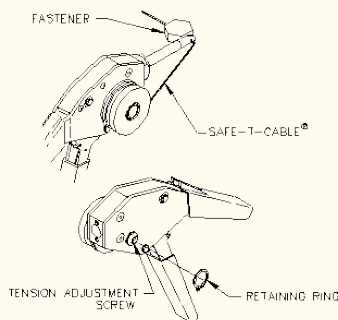

FIGURE 17: Adjustable Tension Safe-T-Cable® Tool
3.2 Adjustable tension tool (Figure 17): Thread the Safe-T-Cable® through the fastener, ferrule, and tool nose in the same way as with other models. Wrap the cable one full revolution (clockwise) around the tension wheel and, with slight pressure applied by pulling the cable, secure the cable into the slot. Rotate the tension knob until several clicks are heard and felt. If additional tension is required, adjustment can be made with the tension adjuster on the opposite side of the tool.
3.2.2 If it is more convenient to use the adjustable tension tool with the wheel located on the opposite side, you may remove the retaining ring located below the tension adjuster, slide the knob assembly out of the tool body and re-insert it on the opposite side. Re-install the retaining ring (Figure 17).